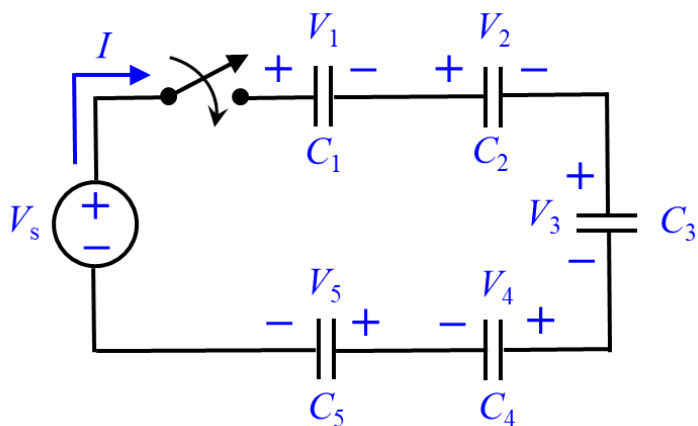

Figure 3 – Voltages across Capacitors in Series
Similar to the voltage divider of a resistive circuit, capacitors in series can divide the voltage of an input source according to their capacitance, as shown in **Figure 3**.
- a. Determine the voltages across the capacitors in **Figure 3** when $V_s = 1V$.
2. With the measured values of C 's, use the MATLAB script to recalculate the voltages across capacitors in **Figure 3**. Record the theoretical results in **Table 3**.
3. Build the circuit in **Figure 3** with $V_s = 12V$. Measure the voltage across each capacitor and record all measurements in **Table 3**.